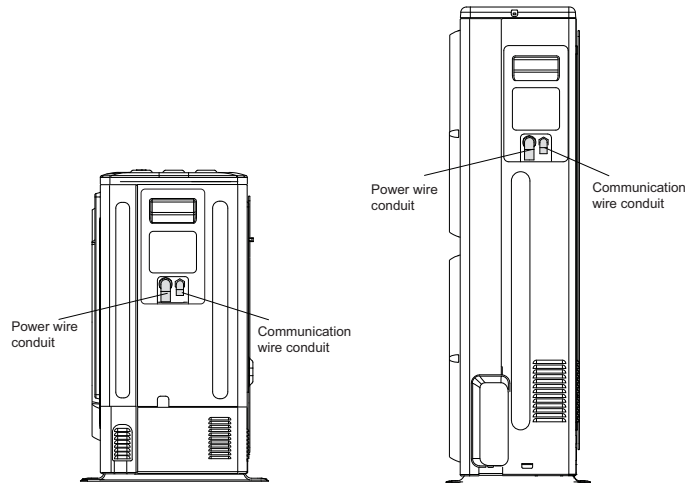

Fig. 59 —Connect Power Wiring
2. Power wire and communication wires are separated by individual conduits. See Figure 59.